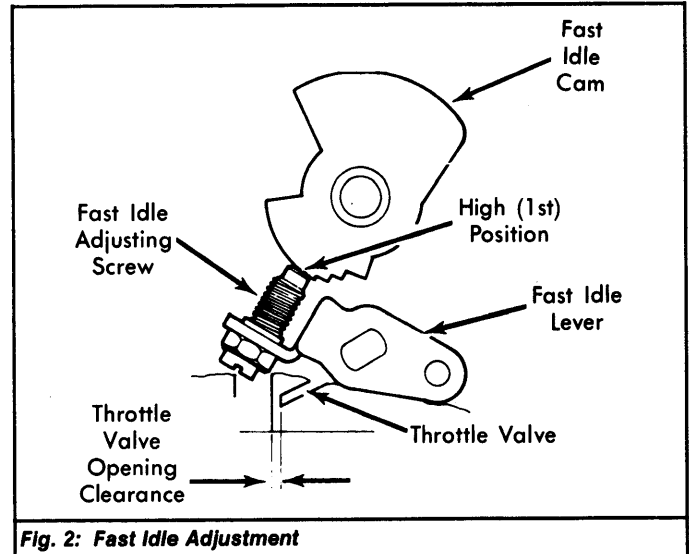

Fig. 2: Fast Idle Adjustment
2) Adjust throttle valve opening clearance by turning fast idle adjusting screw clockwise to increase or counterclockwise to decrease opening clearance. See Fig. 2. Clearance should be .058-.066" (1.47-1.67 mm).